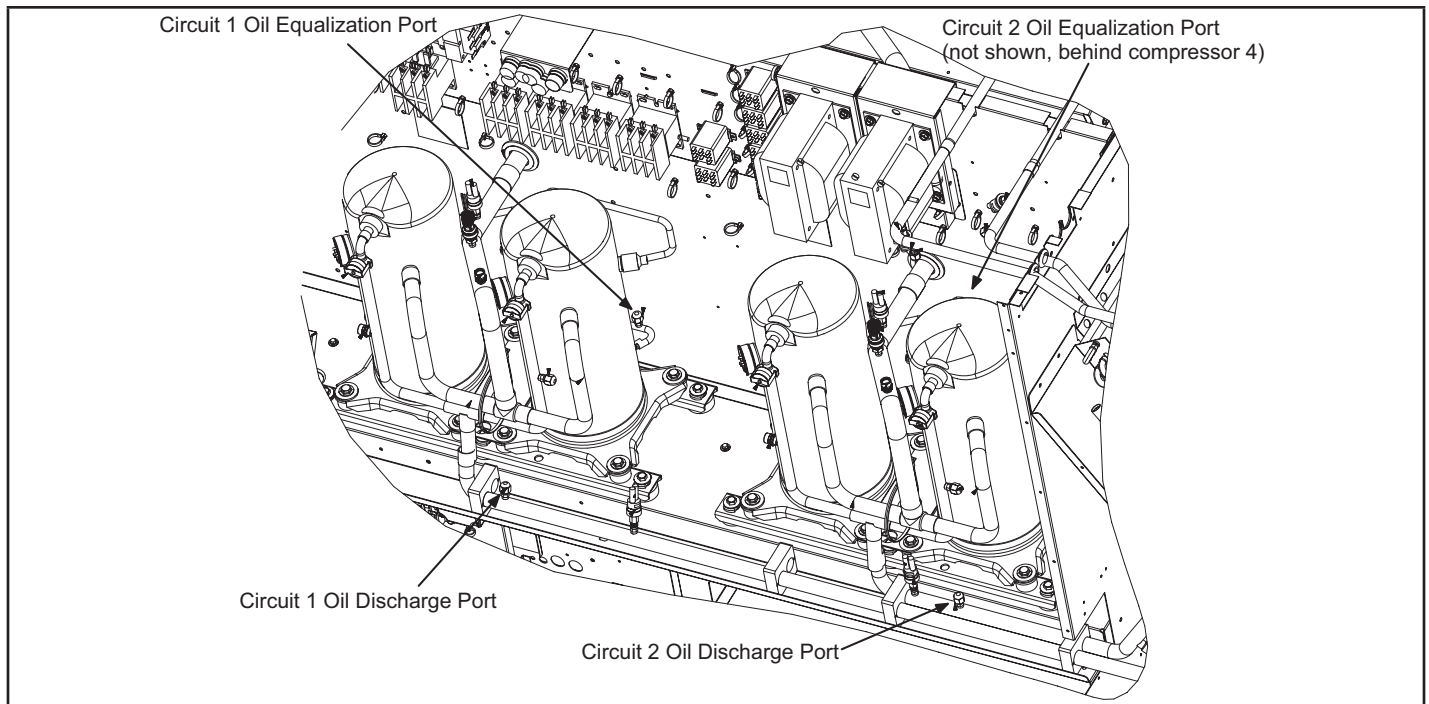

FIGURE 31
- 1 - Run the unit in full load (both compressors running) for a minimum of thirty (30) minutes or until compressor sump superheat is above 20°F.
- 4 - With the unit running in full load, connect the high side manifold gauge hose to the open pressure tap fitting on the common discharge line (see FIGURE 31). Briefly crack the high side manifold gauge valve to purge the high side and middle manifold gauge hoses.
- 10 - Lightly thread the hose coming from the oil container onto the pressure tap fitting provided on the oil equalization line located near the base of the compressors (See FIGURE 31). Do not depress the Schrader Valve..